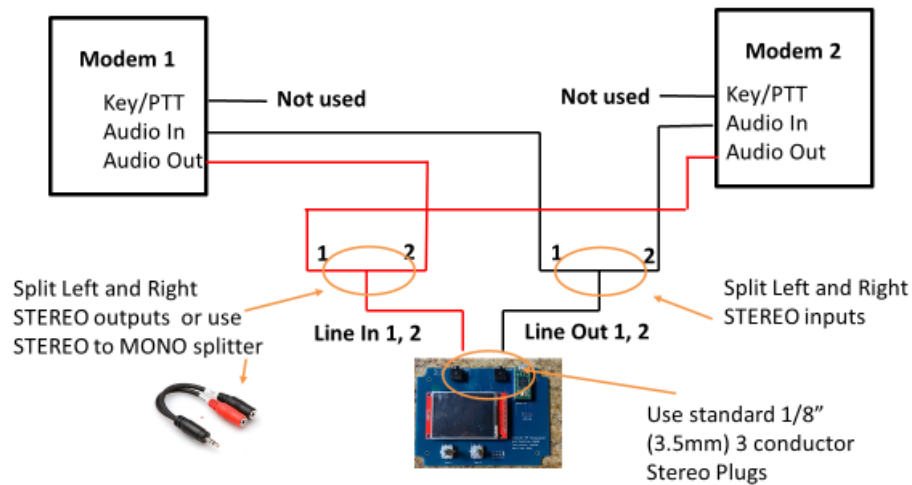

Fig 5. Basic Half Duplex, symmetric channel setup with one IONOS SIM.
3.4 Internal Signal Levels and Crest Factor. The simulator also provides a continuous display of its internal signal level (mv p-p) in display modes WGN through MPD. This is designed to aid in setting modem output levels and Simulator Input gain (CH1 IN, CH2IN) to appropriate operating levels. The full internal signal range of the simulator is 0 to 2000 mv p-p but normally signal levels should target a range of 300 to 1700 mv p-p. The p-p level value is shown in green when it is between these limits or red if outside. Also on a WGN channel the Crest Factor (CF) of the input waveform is computed and displayed. The CF indicates the ratio of peak to average (rms) level. For reference a pure sine wave has a CF = 1.41.
4.0 Basic Setup and Connections for using the Simulator. The simulator can be used to model the paths for non ARQ (one direction) or ARQ half-duplex or full duplex connections. With its' internal audio CH1 and CH2 mixing a *single IONOS SIM* can handle *both* directions of a half-duplex ARQ connection providing symmetric channel modeling (same channel for Modem 1 to Modem 2 and Modem 2 to Modem 1). Figs. 5 and 6 show the both half duplex and full duplex channel modeling. basic connections between modems (or sound cards for sound card protocols) and the simulator and the simulator for both half duplex and full duplex configurations are shown.